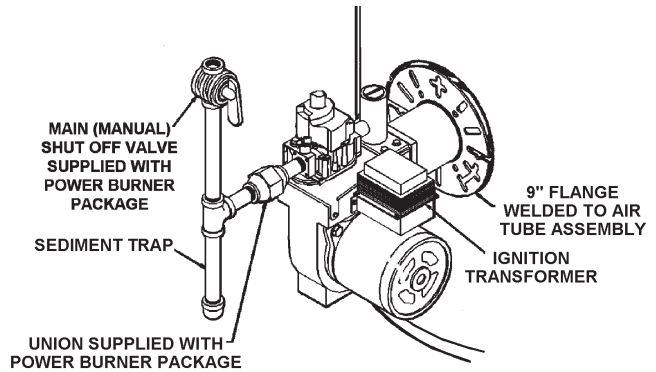

FIGURE 20.
To trap any dirt or foreign material in the gas supply line, a sediment trap must be incorporated in the piping (see Figure 20). The sediment trap must be readily accessible and not subject to freezing conditions. Install in accordance with recommendations of serving gas suppliers. Refer to the latest version of the National Fuel Gas Code.
1. For test pressures exceeding 1/2 psi (3.45 kPa) disconnect the water heater and its Main Gas Shutoff Valve from the gas supply piping system during testing, see Figure 20. The gas supply line must be capped when disconnected from the water heater.